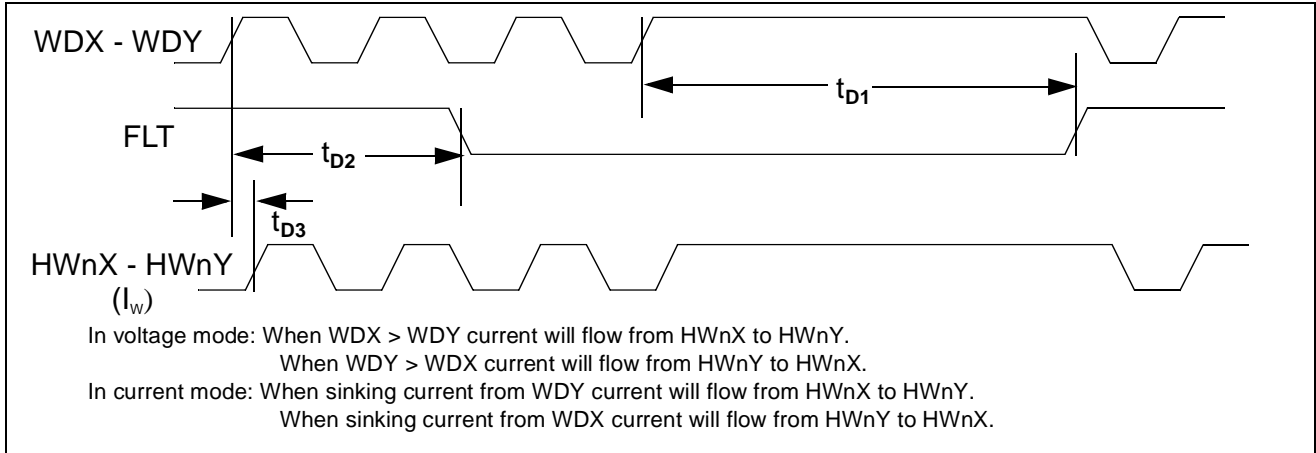

Figure 60 Write Mode Timing Diagram *
1. See Figure 60 for the write mode timing diagram.